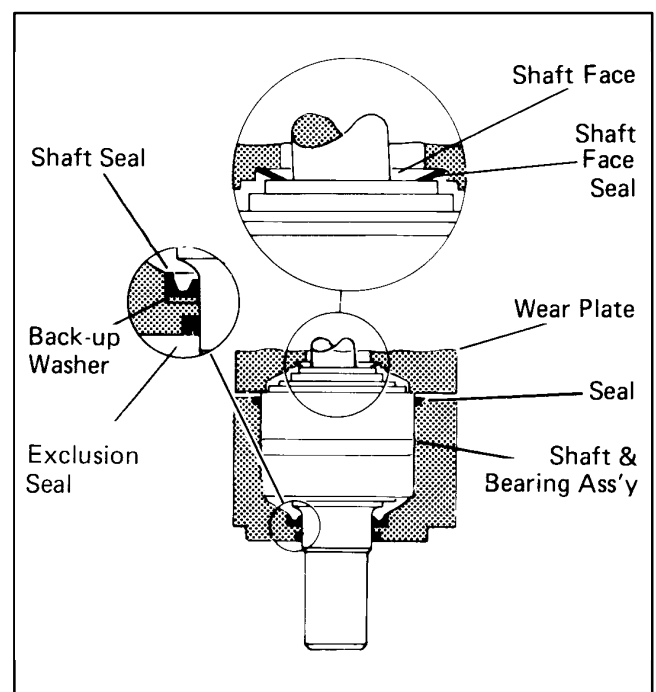

Figure 79
21. Use a press to install exclusion seal in outer bore of bearing housing. Lip of seal must face outward. See Fig. 79. If a press is not available use a plastic or rubber hammer, being careful not to damage or cock seal in the bore.
27. Install the shaft face seal in the wear plate as shown in Fig. 79. Do not distort seal.
28. Install the wear plate, see Fig. 79.
35. Install 2 springs and 2 pins in the holes located in the bore of the valve housing, as shown in Fig. 79.